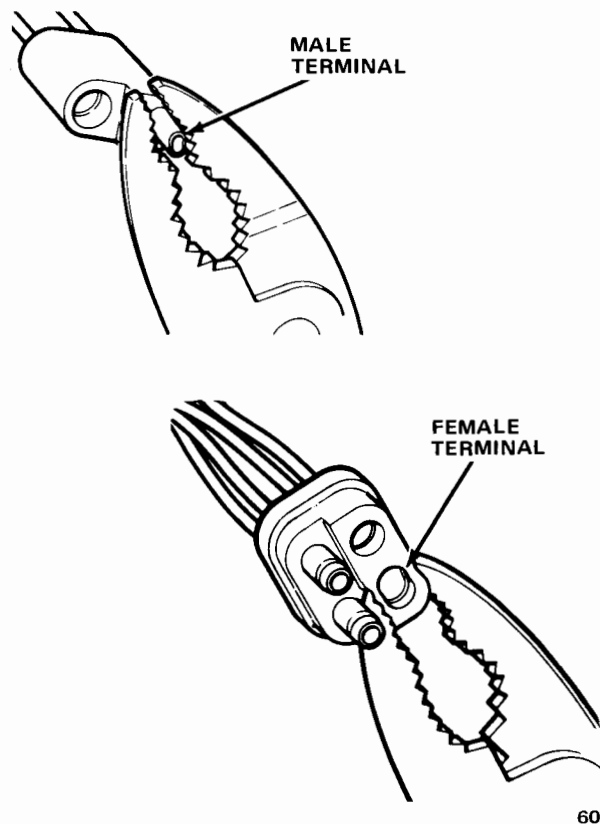
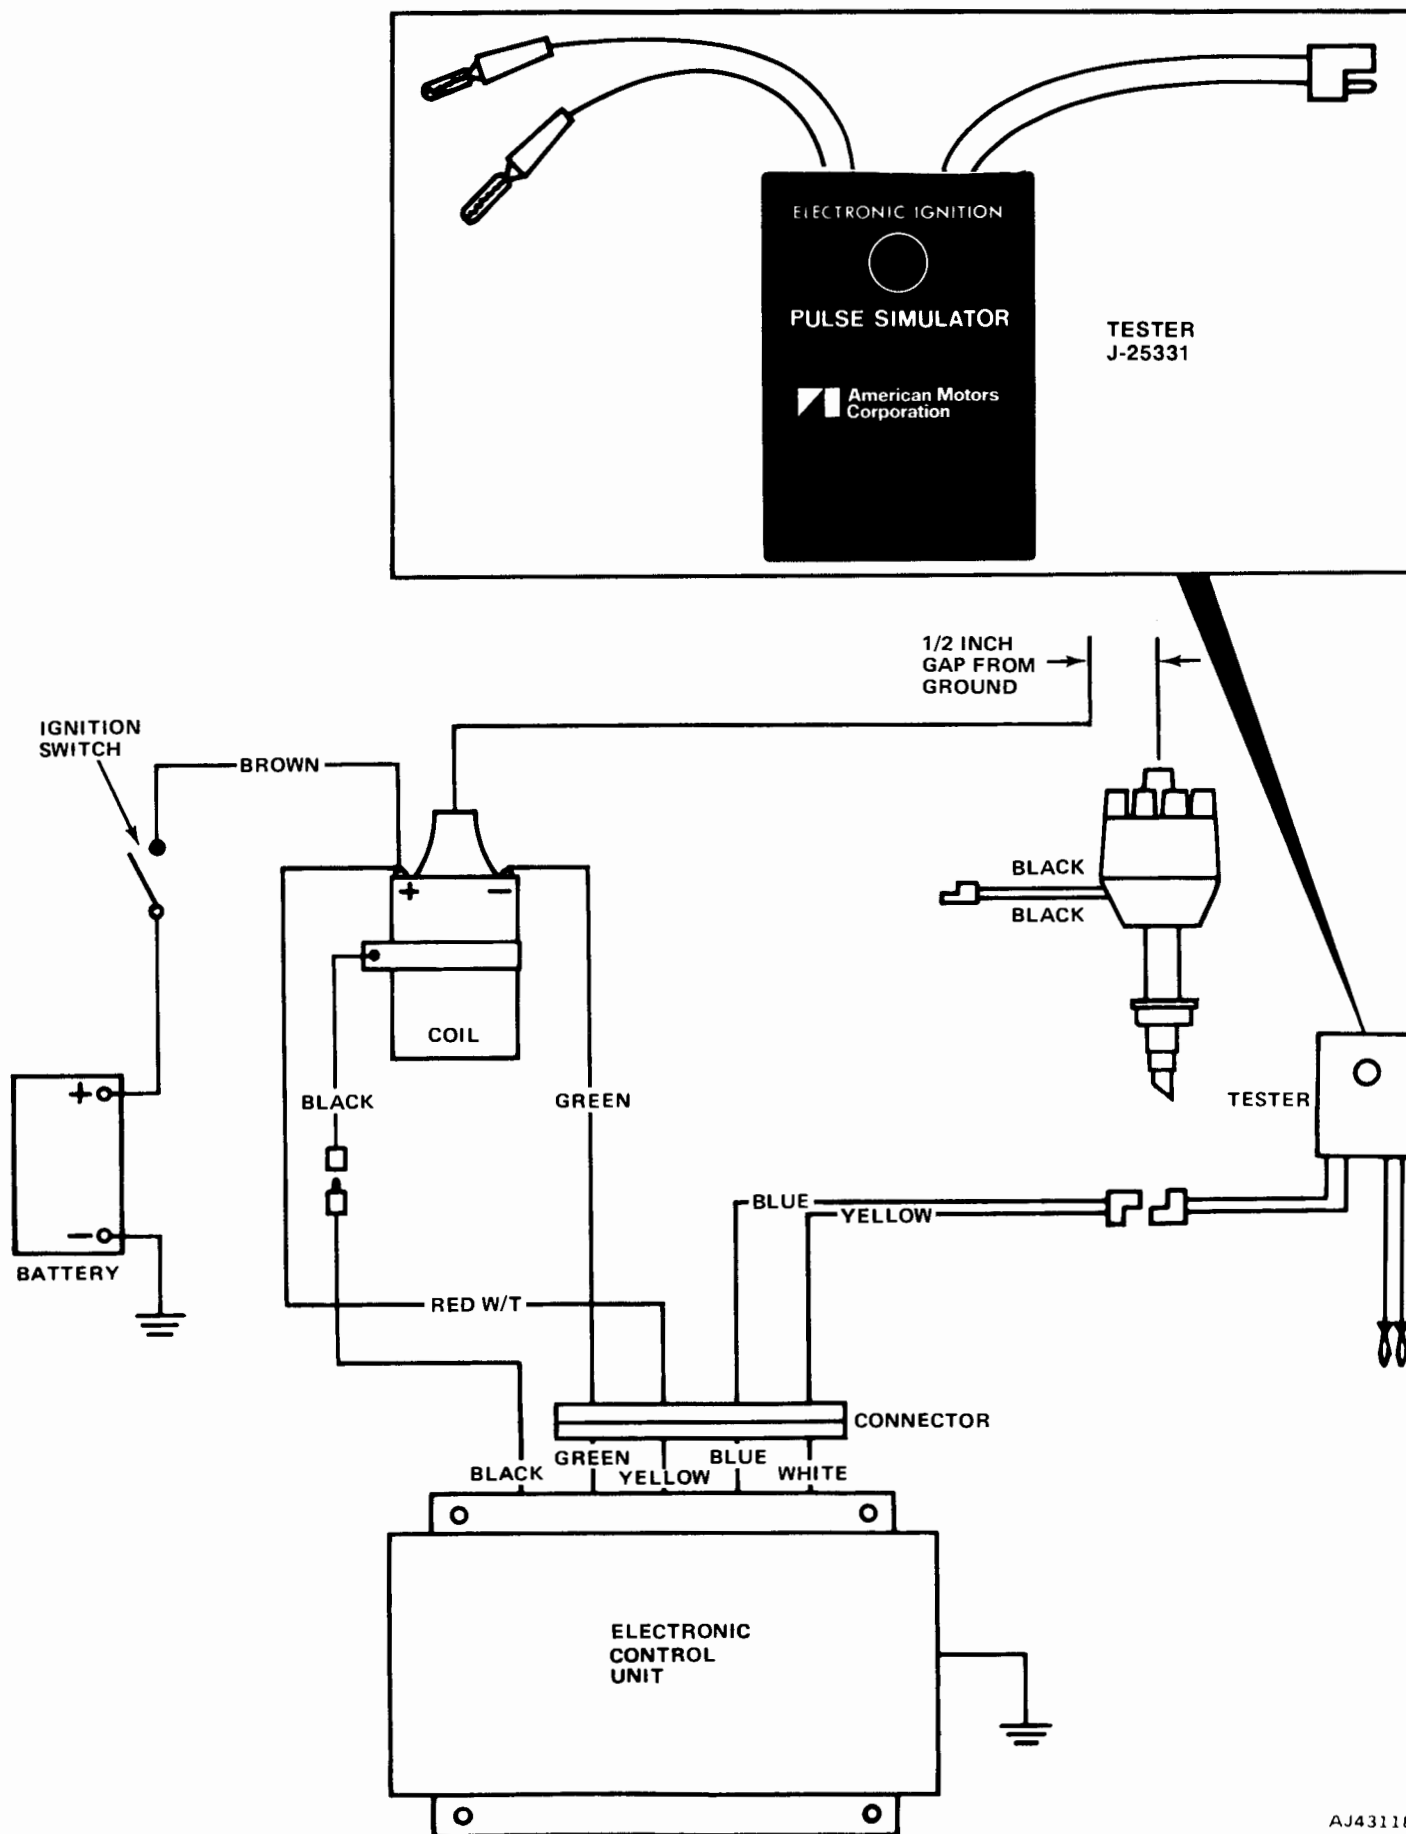

Fig. 3-53 Modifying Connector Terminals
Fig. 3-54 Tester Connected to 2-Wire Connector
(11) Before connecting the 4-wire and ground connectors, use pliers to squeeze terminals E1, E2, E3, E4, and G1 until terminals have a distant oval shape. This assures a tight interference fit when connected. Refer to figure 3-53 for desired terminal shape.
(12) Apply a film of petroleum jelly to all male terminals in 4-wire and ground connectors and around outer edge of terminal end of ECU 4-wire connector. Connect 4-wire and ground connectors and proceed to step (13).
(13) Connect Pulse Simulator Tool No. J-25331 to control unit side of 2-wire connector (fig. 3-54). Connect battery cables to battery (connect positive cable first). Remove coil secondary wire from distributor cap, and place wire end 1/2 inch from any good ground (fig. 3-54). With ignition switch ON, operate simulator and observe for spark across 1/2-inch gap.
(15) Disconnect pulse simulator. Before connecting 2-wire connector, squeeze terminals S1, S2, S3, and S4 until terminals have a distinct oval shape to assure tight interference fit (fig. 3-53). Apply a film of petroleum jelly to male terminals and connect 2-wire connector. Connect coil negative wire. Inspect distributor cap for cracks and carbon tracks and replace if necessary. Install dust cover, rotor, distributor cap and coil secondary wire.
(16) Inspect the catalytic converter for external evidence of overheating (e.g., top and bottom bulged) and replace converter(s) if damaged. Such damage is rare, but can occur as a result of extreme amounts of unburned fuel going into the converter.